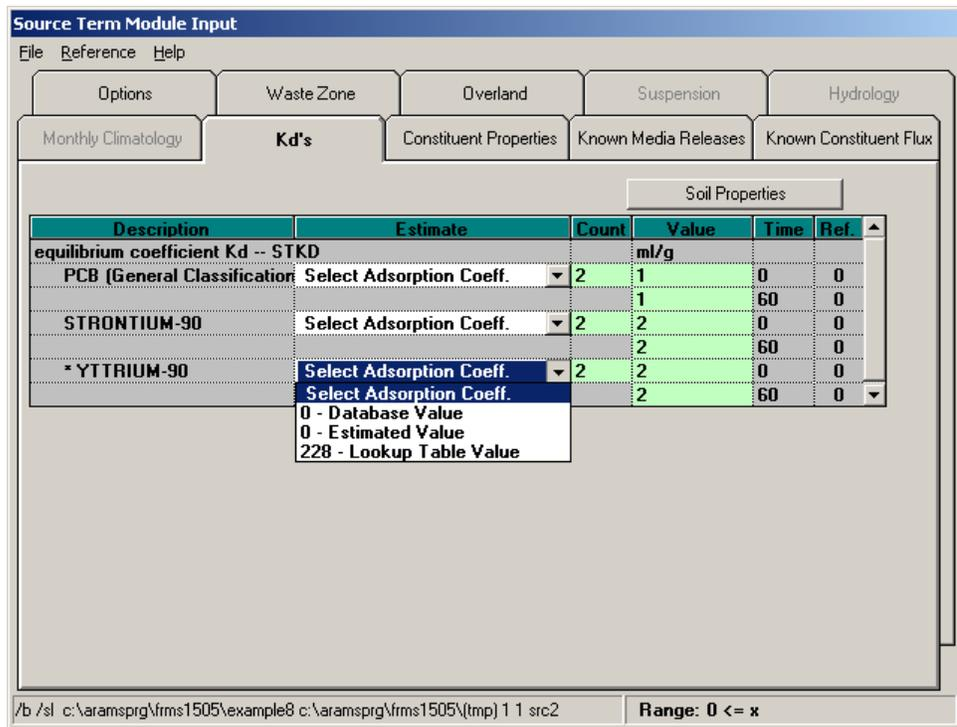

Figure 12. Source Term Module Input – Kd's tab
- *Kd's Tab (Soil partitioning parameters) – Figure 12*
- Set the type of equilibrium coefficient to “Select Adsorption Coeff.” and the count to “2” for each constituent. This will allow the user to enter values for the equilibrium coefficient at two different time points. Other options are also available from the dropdown box as shown in Figure 12 (user specified values, the value from the constituent database, an estimated value based upon soil properties, and a value from a look up table for metals). The value is shown first followed by the source of the data such as 228 mL/g from the Lookup Table. Enter the following values for the partition coefficients (these values are for illustration only; as may be noted, the value for PCB is much lower than usual).